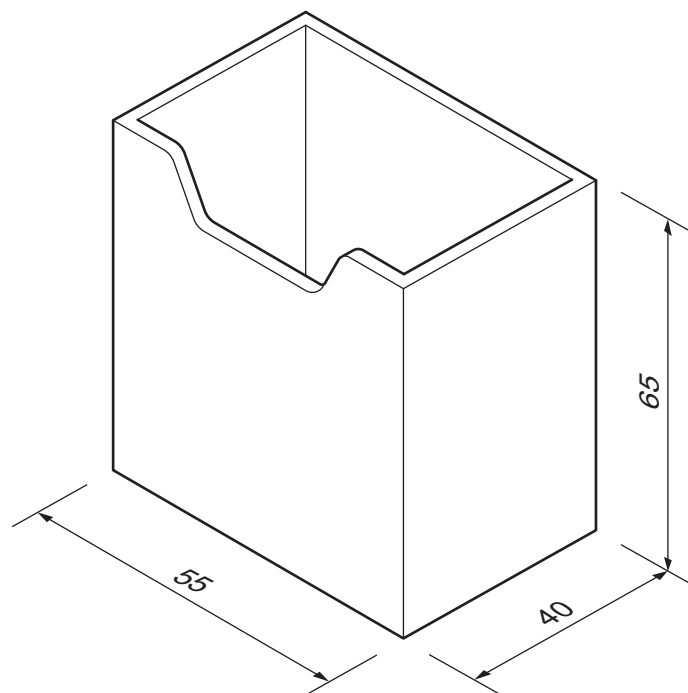

Fig. 1.1
- 1 Fig. 1.1 shows details of a holder for business cards.
- (a) State a suitable material for the holder shown in Fig. 1.1.
- (b) Use sketches and notes to show how you would make **one** holder as shown in Fig. 1.1 in a school workshop.